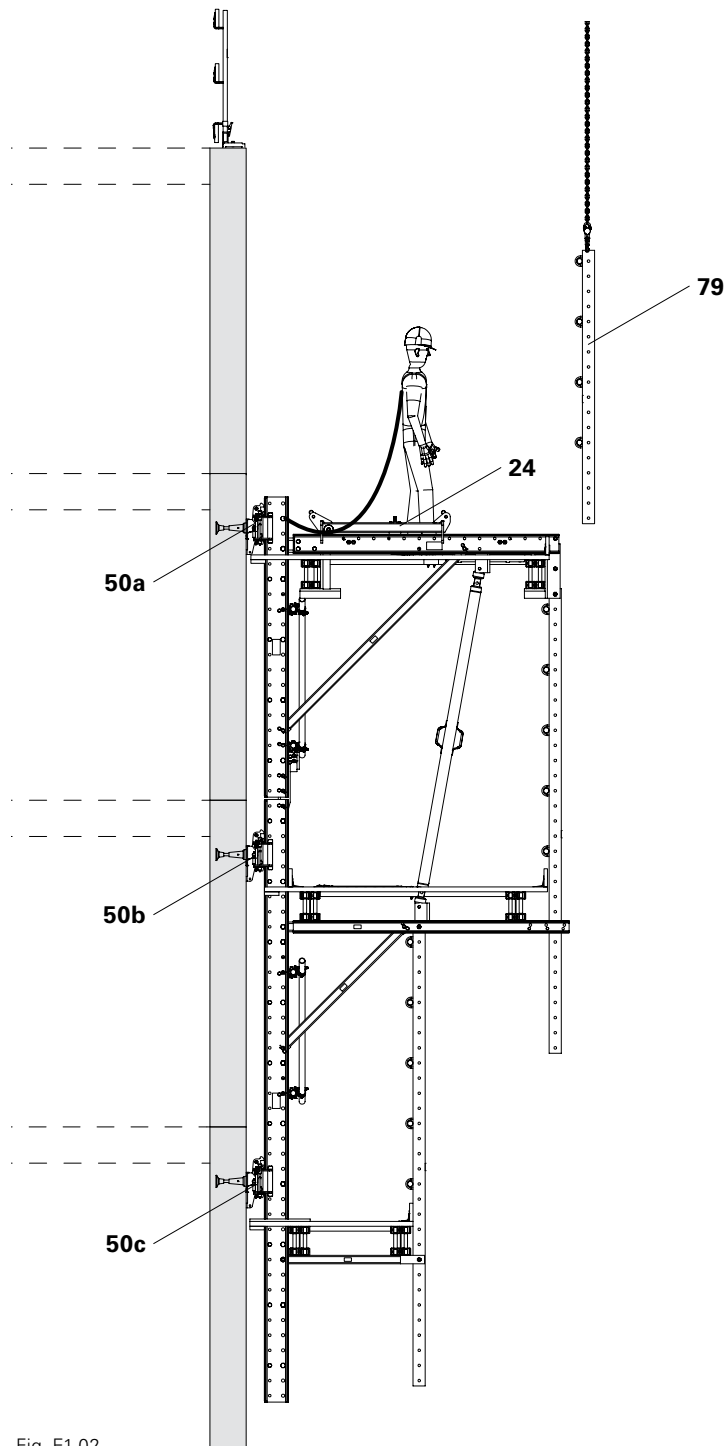

Fig. E1.02
1. Dismantle the side protection (79) on the working platform or brace. See Section "C4 Assembly of the Finishing Platform Unit" on page 80. (Fig. E1.02)
2. Move the Carriage (24) over the centre of gravity of the climbing unit.